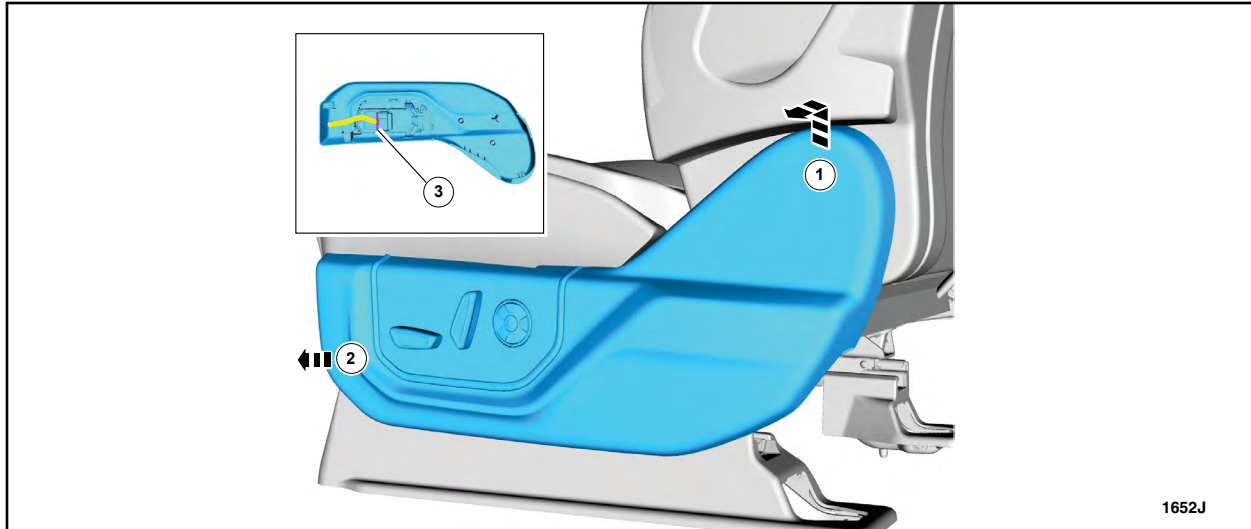

FIGURE 15
6. Remove the side shield. See Figure 15.